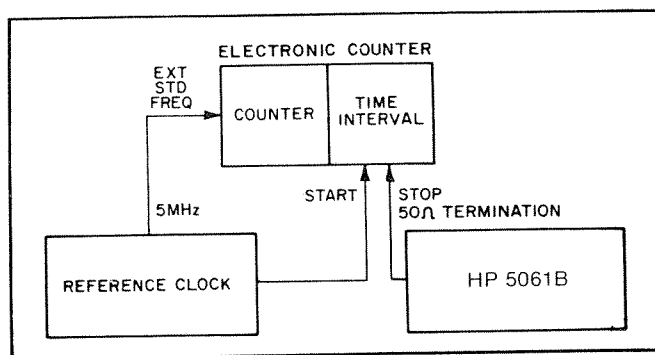

Figure 3-6. Manual Clock Delay Adjust Test Setup
- c. Connect the HP 5061B and other equipment as shown in *Figure 3-6*.
A 50-ohm resistive feedthrough "termination" should be connected at the time interval counter STOP input if the counter is not equipped with a 50 Ω input impedance. This will prevent ringing in the pulse. (See Figure 3-6.)